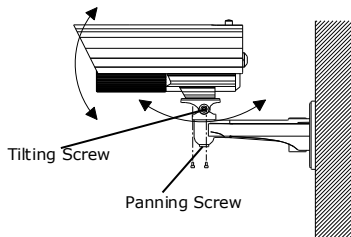

Figure 2-3 Adjust the Monitoring Angle
4. Loosen the panning screw and tilting screw of the mount as shown in Figure 2-3.